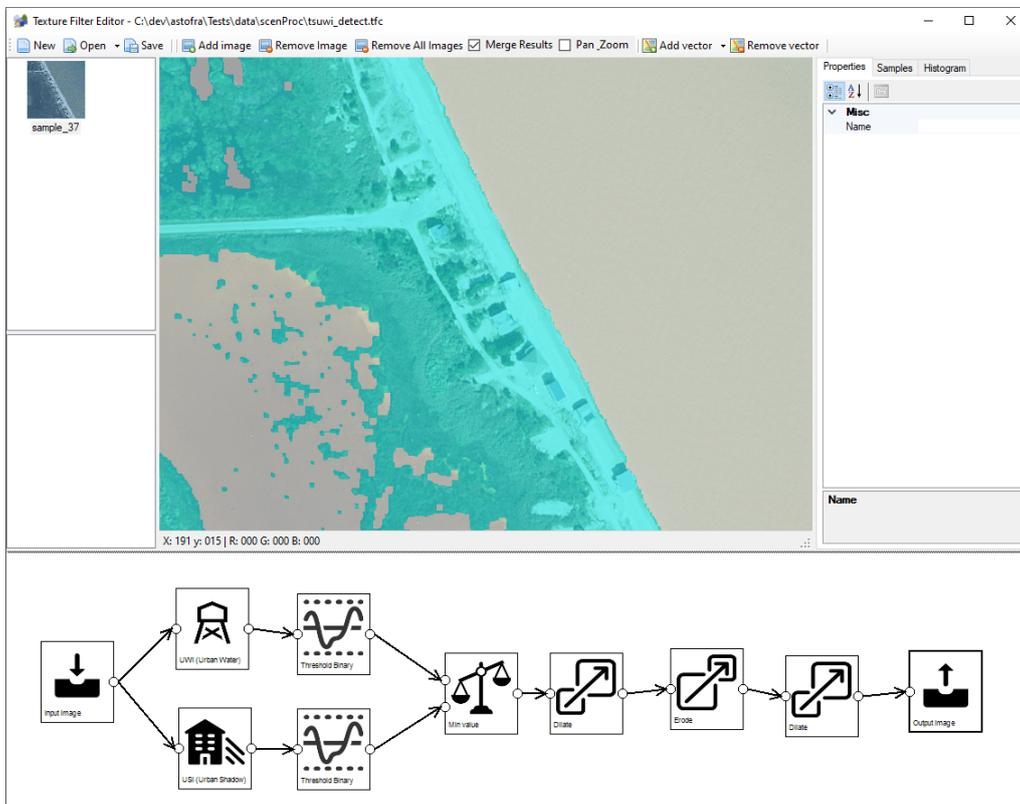

Figure 6.48: The final detection result merged with the input image
10. The output image, shown merged in Figure 6.48 with the input image, to see that the water matches the vegetation in the image well.